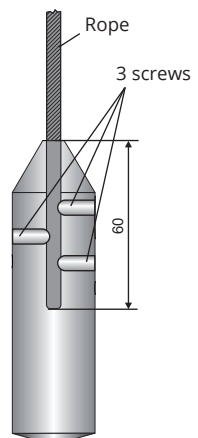

Fig. 18: Drawing of the rope electrode weight
2. Shorten the rod electrode with a suitable metal saw and grind the electrode end. The length of this electrode must be by 7 mm shorter than the dimension "E", see Fig. 15. For the rope electrode, the three fixing screws on the weight have to be loosened, and the rope end must be pulled out, see Fig. 18. After shortening, make sure that the length of the rope is appropriate – the rope is recessed in the weight up to approximately 60 mm. For the rope shortening, cutting pliers are the best option. Be careful not to fray the end of the rope.